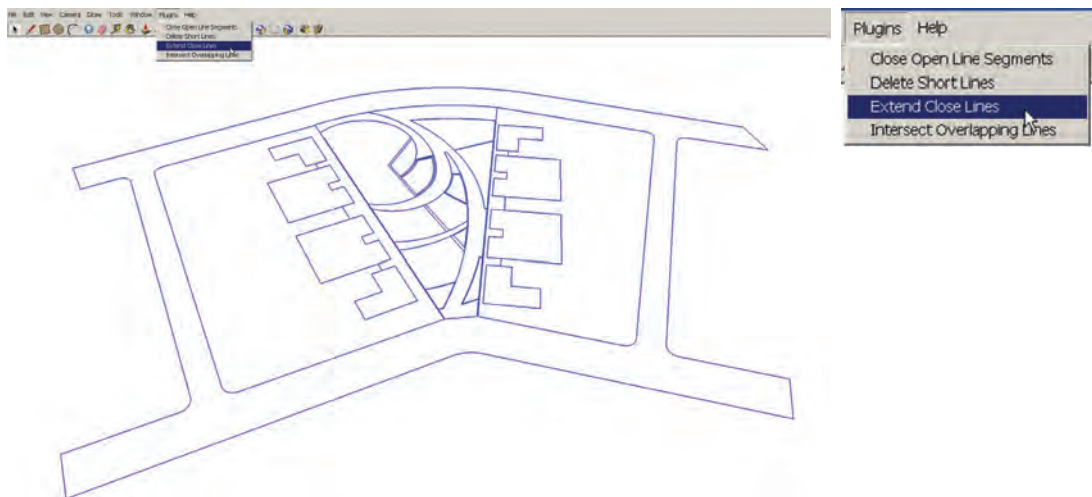
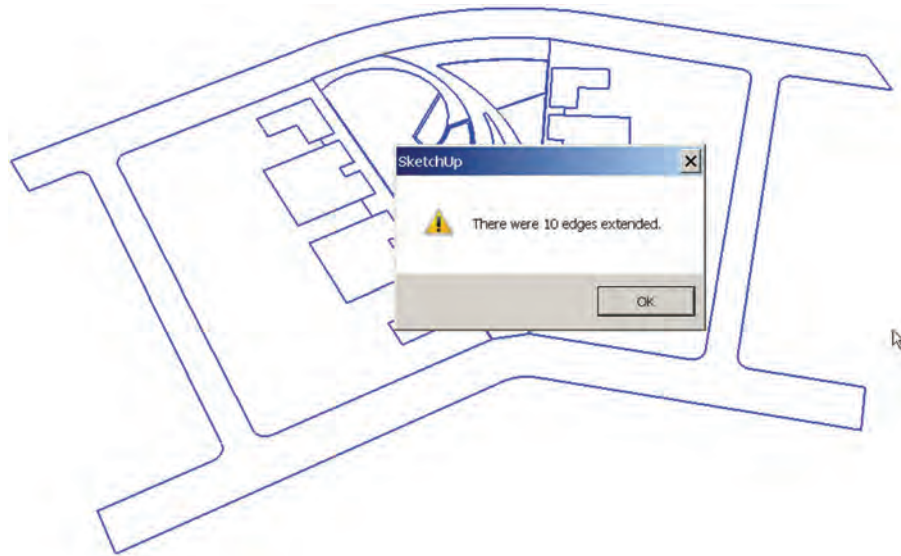

Fig. 18-22: Select the all the linework of the exploded flatwork edges. From the Extensions menu, select Extend Closed Lines.
Fig. 18-23: Select all the linework of the exploded flatwork edges. From the Extensions menu, select Extend Closed Lines.
1. Select all the edges. From the Extensions menu, select Extend Close Lines. A dialog window will appear, indicating how many edges were extended by the extension. Save the file (Fig. 18-22, Fig. 18-23).